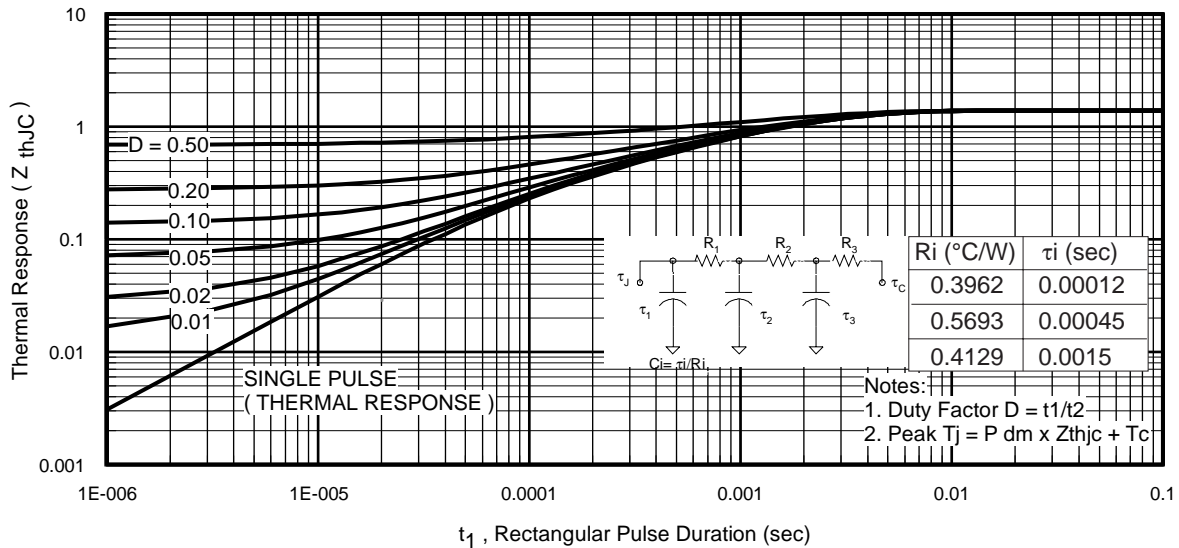
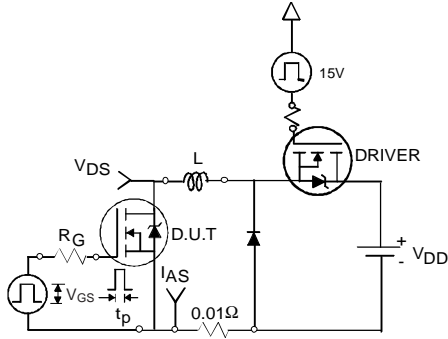

Fig 11. Maximum Effective Transient Thermal Impedance, Junction-to-Case
Fig 12a. Unclamped Inductive Test Circuit
3. Equation below based on circuit and waveforms shown in Figures 12a, 12b.
$Z_{thJC}(D, t_{av})$ = Transient thermal resistance, see figure 11)
- ① Repetitive rating; pulse width limited by max. junction temperature. (See fig. 11).
- ② Limited by T_{Jmax} ; starting $T_J = 25^\circ\text{C}$, $L = 0.08\text{mH}$, $R_G = 25\Omega$, $I_{AS} = 36\text{A}$, $V_{GS} = 10\text{V}$. Part not recommended for use above this value.
- ③ Pulse width $\leq 1.0\text{ms}$; duty cycle $\leq 2\%$.
- ④ C_{oss} eff. is a fixed capacitance that gives the same charging time as C_{oss} while V_{DS} is rising from 0 to 80% V_{DSS} .
- ⑤ Limited by T_{Jmax} , see Fig.12a, 12b, 15, 16 for typical repetitive avalanche performance.
- ⑥ This value determined from sample failure population. 100% tested to this value in production.
- ⑦ When mounted on 1" square PCB (FR-4 or G-10 Material). For recommended footprint and soldering techniques refer to application note #AN-994
- ⑧ R_θ is measured at T_J approximately 90°C